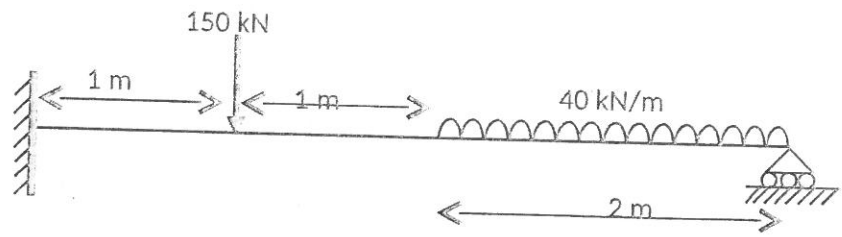

Fig. 2
3. Using Strain Energy method, analyse the beam supported and loaded as shown in Fig. 2.